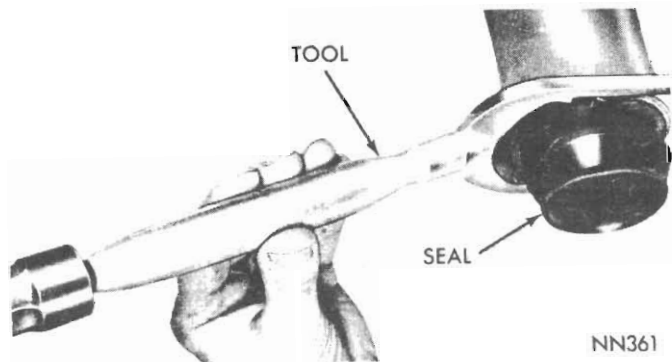

Fig. 16 - Removing extension housing yoke seal
(2) Remove the extension housing yoke seal (Fig. 16) with Tool E21C50D.